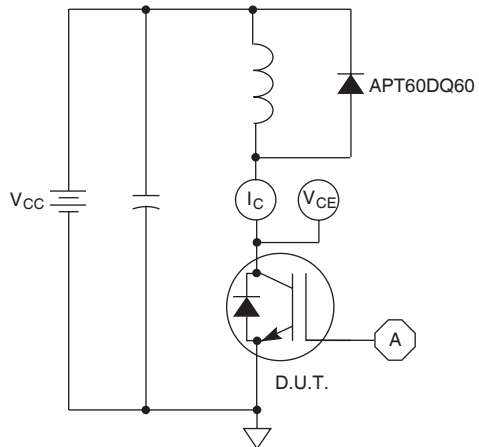

Figure 21, Inductive Switching Test Circuit
⑤ E_{on2} is the clamped inductive turn-on energy that includes a commutating diode reverse recovery current in the IGBT turn-on switching loss. (See Figures 21, 22.)
⑥ E_{off} is the clamped inductive turn-off energy measured in accordance with JEDEC standard JESD24-1. (See Figures 21, 23.)